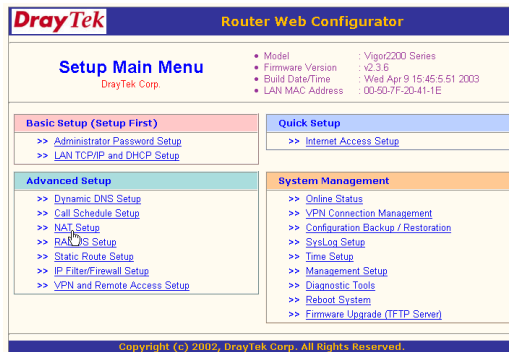

Figure 5: NAT setup
- Select the menu 'NAT setup' (figure 5)